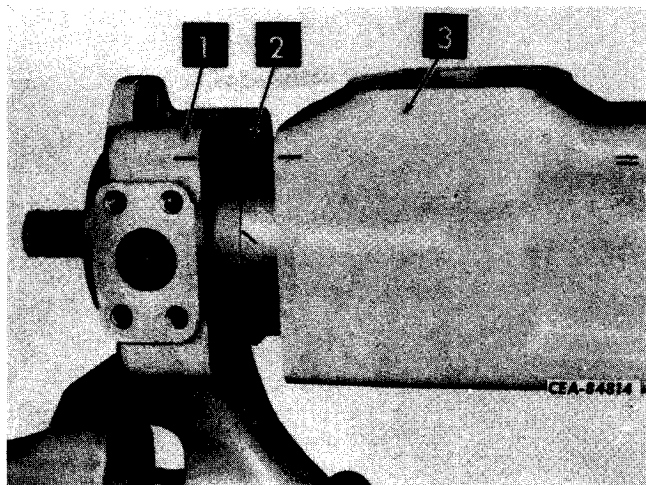

Figure 11-7
Slide housing (3, Fig. 11-7) from pump body (1) and cartridge (2).